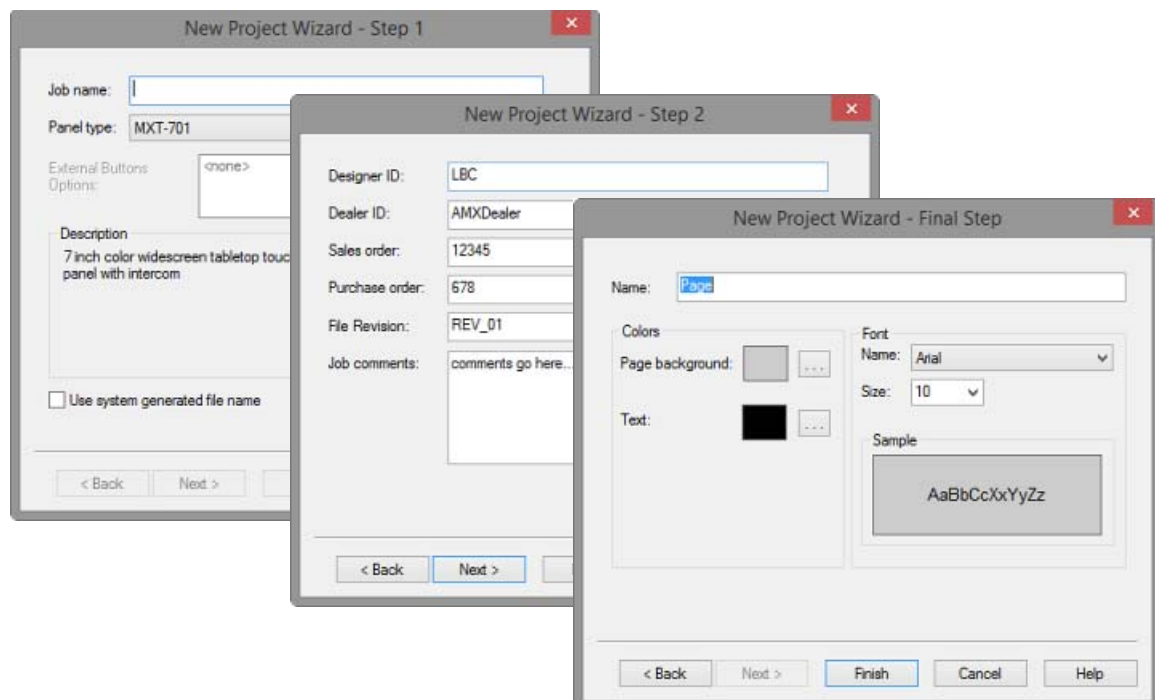

FIG. 2 New Project Wizard dialogs
1. Select **File > New** To open the *New Project Wizard - Step 1* dialog (FIG. 2):
3. Select **Next** to proceed to the *New Project Wizard - Step 2* dialog (see FIG. 2 on page 21). This dialog collects the information that is used for System-Generated File Names.
5. Select **Next** to proceed to the *New Project Wizard - Final Step* dialog (see FIG. 2 on page 21). The options in this dialog allow you to set up the initial touch panel page in the project.